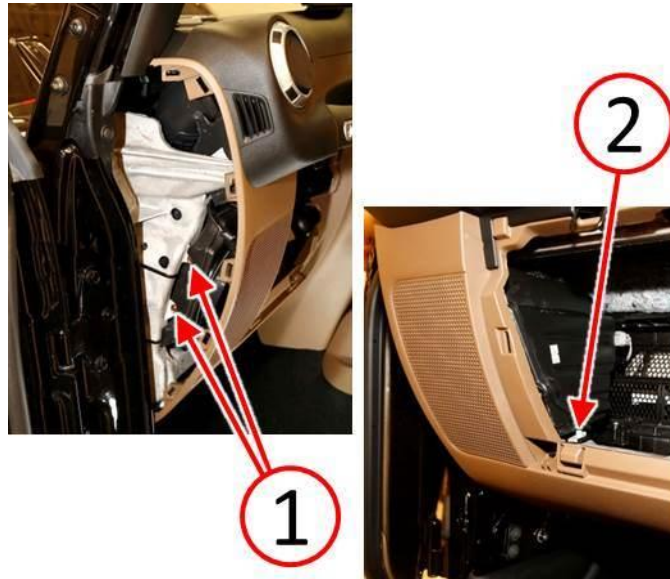

Fig. 6 Instrument Panel Left Side Speaker Fasteners
15. Remove the left speaker mounting fasteners. Two fasteners (1) are located at the left side of the instrument panel and one fastener (2) is located at the lower left corner of the glove box opening (Fig. 6).